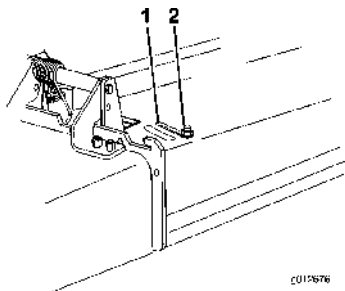

Figure 22
3. To adjust the baffle, loosen the nut (Figure 22).